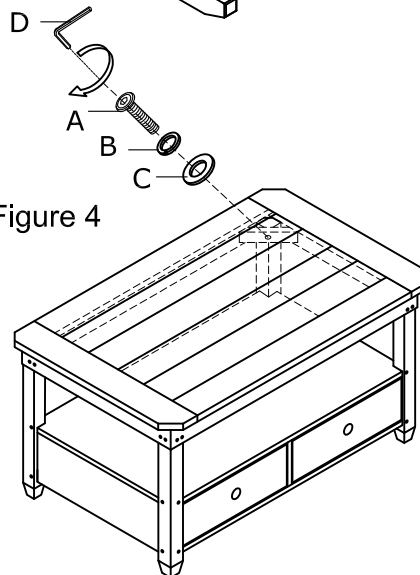

Figure 4
4. Attach the table top to the four legs using Flat Washer (C), Lock Washer (B) and Bolt (A), tighten with the Allen Wrench (D). As Shown in Figure 4.(Do not over tighten bolts during assembly. )